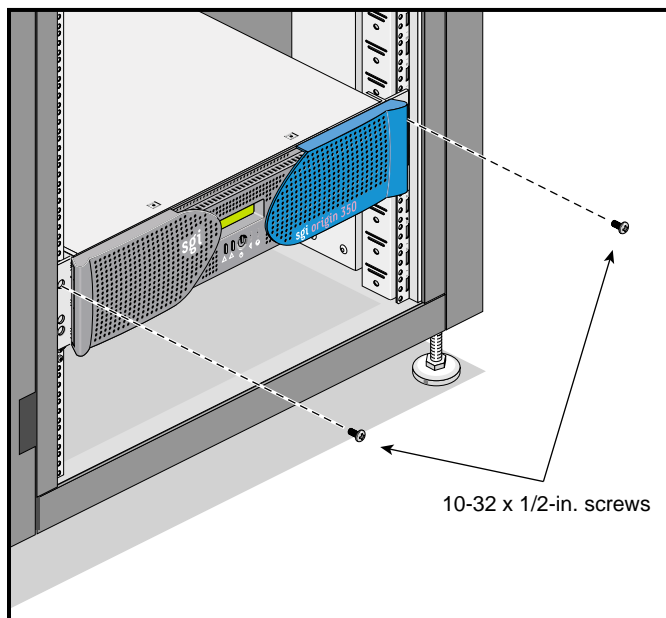

Figure 1-20 Securing the Module to the Rack
- Secure the module to the rack by inserting a 10-32 x 1/2-in. Phillips screw in the top hole of each chassis ear (see Figure 1-20).
Caution: Do not lift the module by its bezel; it is not designed to handle the weight of the module. Instead, use the chassis ears to move the module (see Figure 1-20).